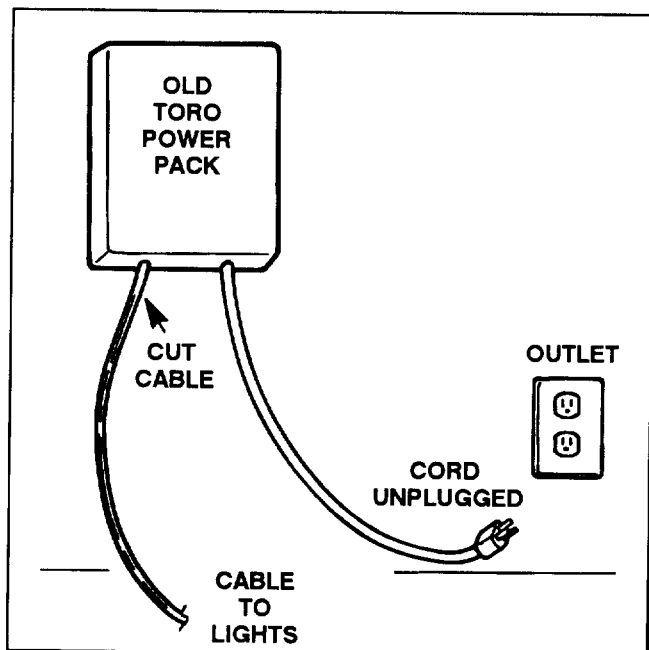

Figure 4
2. Cut the cable off near the original power pack (Fig. 4).